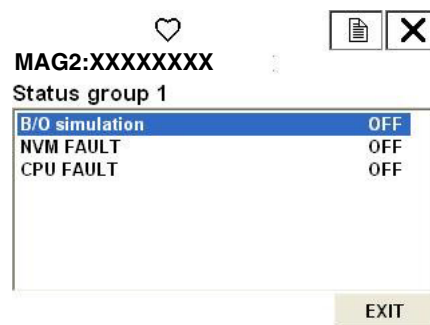

Figure 149.
- There are 3 groups. Each group has different items to be verified. Figure 149 shows an example of "Status group 1".